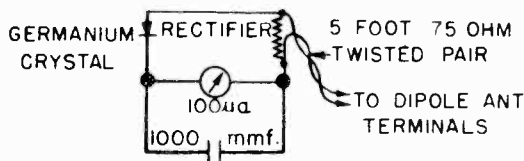

FIGURE 1
2. Field Strength Meter (Fig. 1). This meter may consist of a D.C. 100 microampere (full scale) meter, shunted by a 1000 mmf. mica by-pass condenser; a germanium crystal rectifier connected in series with the meter and a five foot, 75 ohm twisted, pair of leads. Shunt the meter end of the leads with a 75 ohm carbon resistor. The open ends of the leads are connected to the F.M. dipole antenna terminals. *Connect the condenser directly across meter terminals, and the crystal directly to one terminal of meter. Keep connecting leads as short as possible*
1. Change the resistor (item No. 32) to a 22,000 ohm, $\frac{1}{2}$ watt, resistor (part No. 39373-60) as shown in Fig. 1.
2. Add one 10,000 ohm $\frac{1}{2}$ watt, resistor (part No. 39373-54) as shown in Fig. 1. (88TC only)